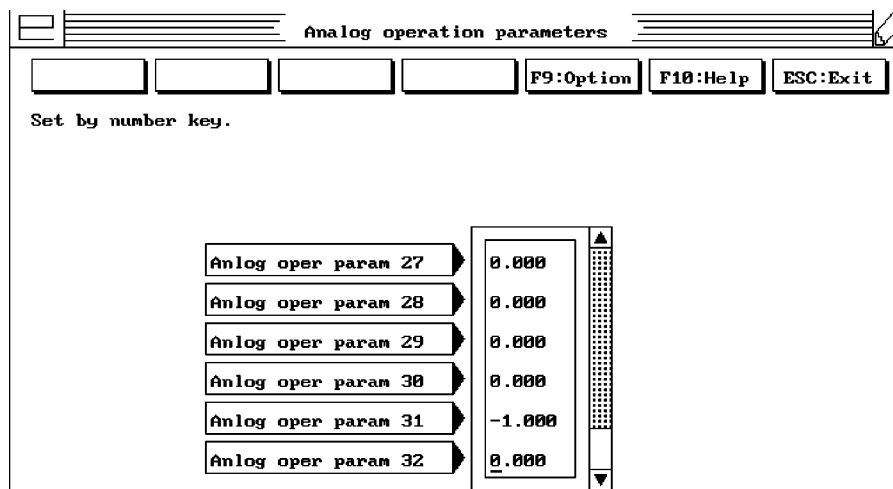

Figure 21
3. From the Analog operation parameters menu (Figure 21), scroll down to **Analog oper param 31** and select it. Key in the value -1.000.